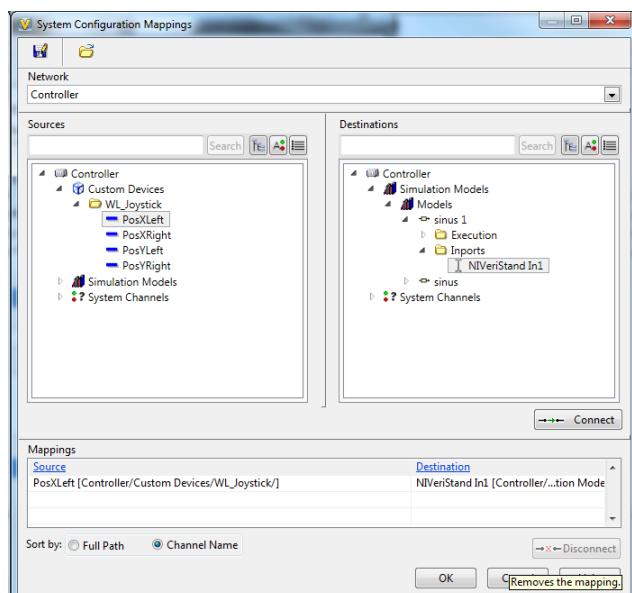

Figure 20: VeriStand System Configuration Mappings
4. Configure mappings, by pushing the icon at the top of the window, to connect signals between custom devices, FPGA and models. Expand the trees to find the desired signals and click Connect, as in Figure 20.